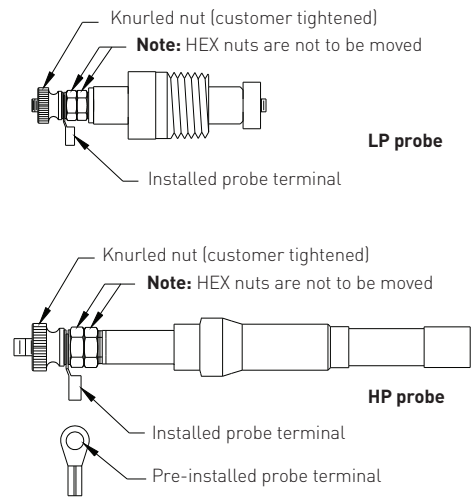

FIGURE 2
The water column is supplied with either of two probe styles, if used with a remote level indicating system. For applications below 525°F [274°C] / 850 psig [58 barg], an economical probe is available with a PTFE wetted insulator. It can not be used if either parameter [525°F [274°C] or 850 psig [58 barg]] is exceeded. For all other applications, probes with the zirconium oxide (ceramic) insulators must be used. The high pressure (HP) probes are easily recognized by the brazing between the insulator and the body (Fig 2). The two styles of probes are not interchangeable and will not fit in a receptacle designed for the other. LP probes use a threaded fitting, the HP a compression fitting.